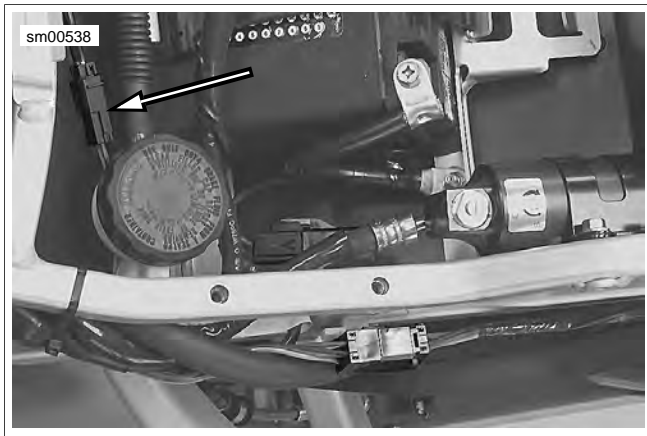

Figure 2-64. Brake Line Switch Connector: Firebolt
6. See Figure 2-64 or Figure 2-65. Disconnect brake light connector located under the seat.
- a. If removed, attach remote reservoir (1) to frame using clamp fastener (2). Tighten to 48-72 **in-lbs** (5.4-8 Nm).
- b. Attach hose (3) to rear brake reservoir using clamp.
5. See Figure 2-64. Connect brake line switch connector under seat.